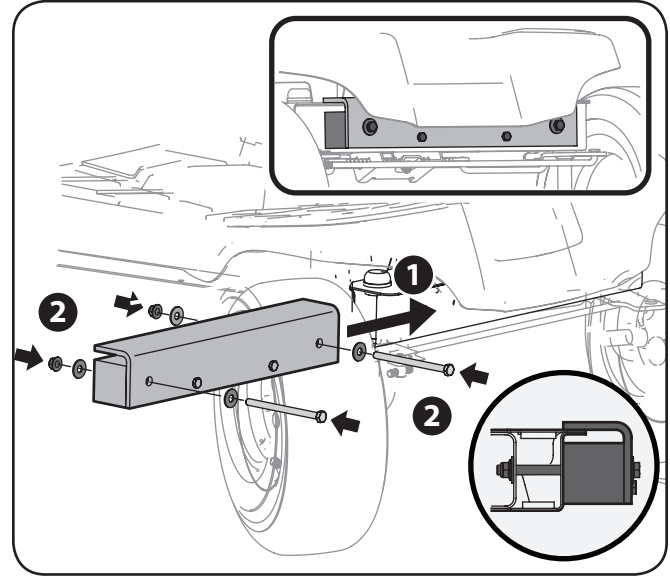

Figure 4-7
1. Turn the wheels of the tractor all the way to the right hand side, from the operator's position, as shown in Fig. 4-7.